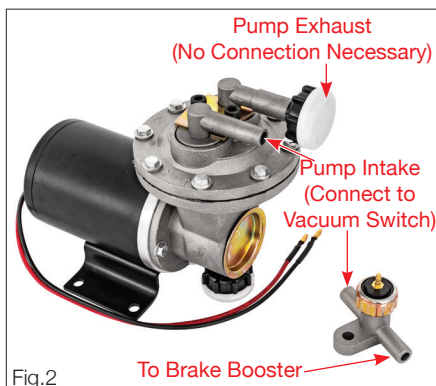

Fig.2
3. Install the vacuum hoses as shown in Figure 2 on next page.